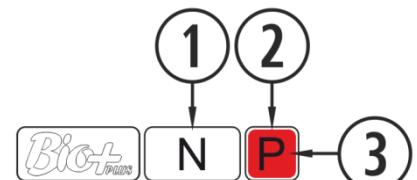

Figure 4
To turn the stove on we have to push the button (On-Off) on the control panel. Point ③ of figure 4 will change colour, as the stove goes through the different ignition phases.